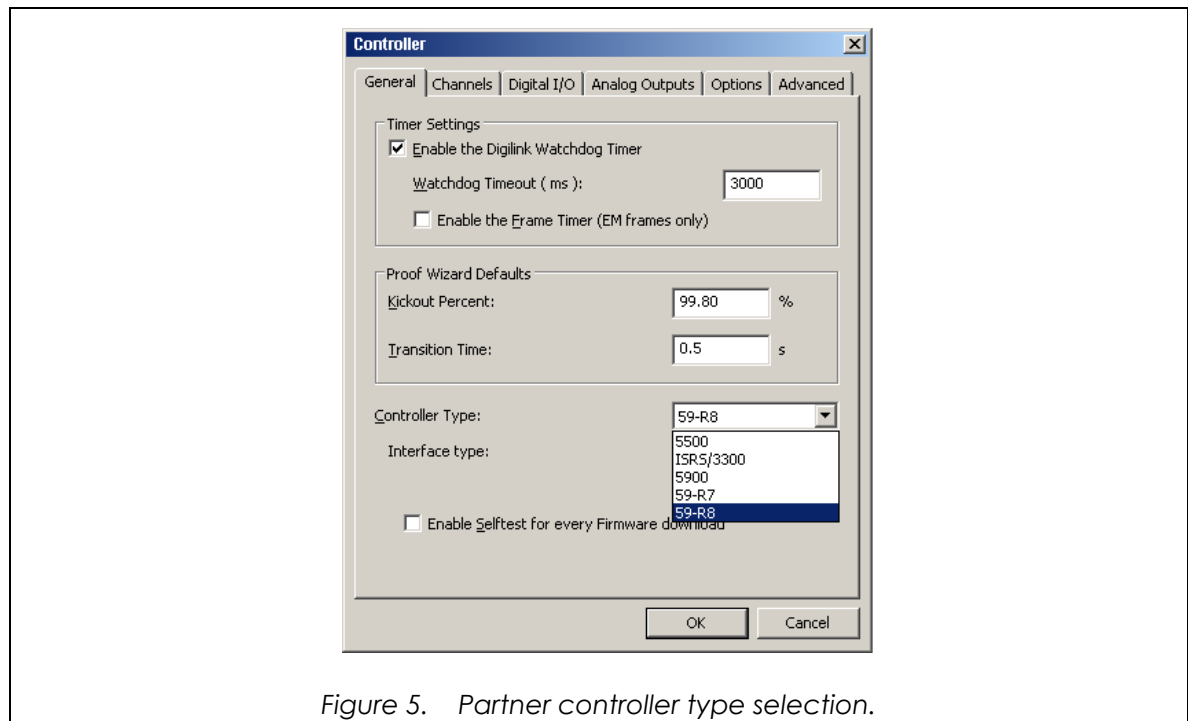

Figure 5. Partner controller type selection.
- v. On the General tab, verify the correct controller is selected (Figure 5).